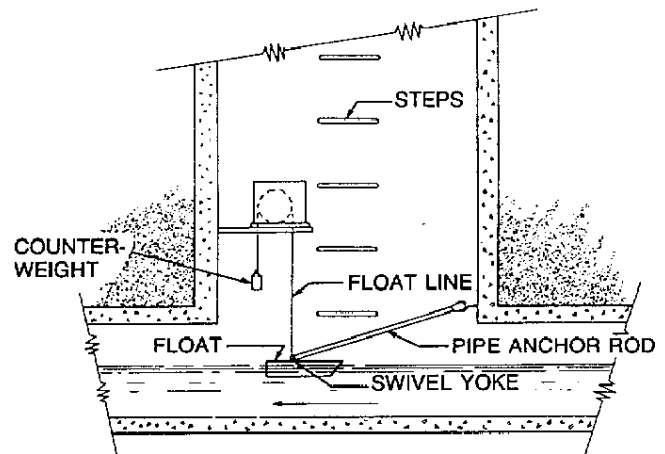

Figure 4. Installation with a Scow Float
Step 13. If your setup includes a scow float, refer to Figure 4.